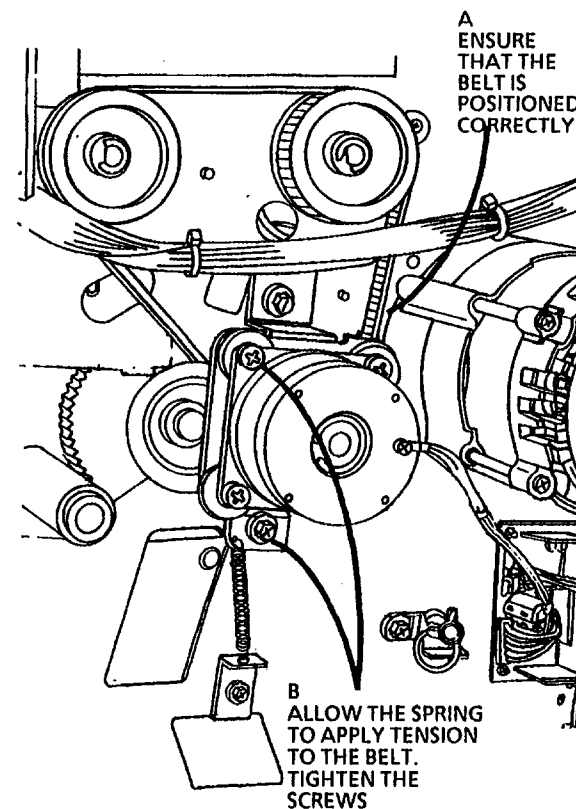

Figure 2. Reinstalling the Belt
2. (Figure 2): Apply tension to the belt.